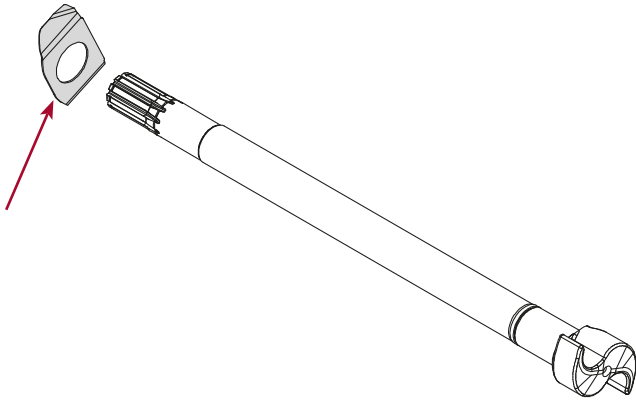

Figure 88: Under-Head Washer Fitment
1. Slide the under-head cam washer, facing onto the new S-cam, until it contacts the head. Refer Figure 88.